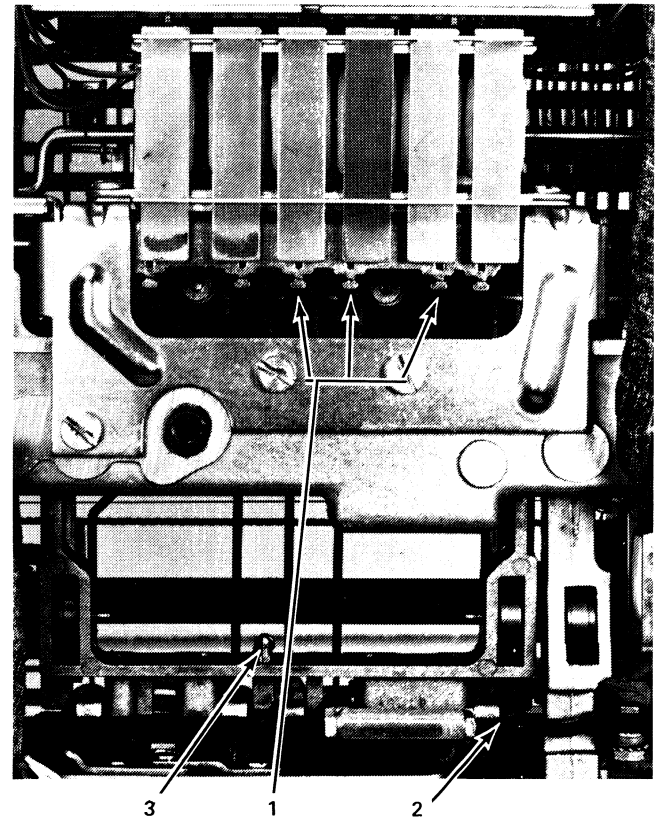

Figure 4-28. Rotate Selection Differential Removal (Bottom of Printer)
3. Disconnect the clevises and remove them from the links (No. 1, Figure 4-28).
4. Disconnect the rotate link at both ends, and remove it (No. 2, Figure 4-28).
5. Remove the latch bail spring (No. 3, Figure 4-28).